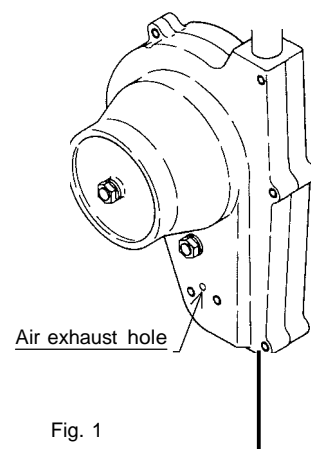

Fig. 1
5.2 Check of the Preventive Device against Reverse Winding (Overlowering Limit Switch) -See Fig. 1